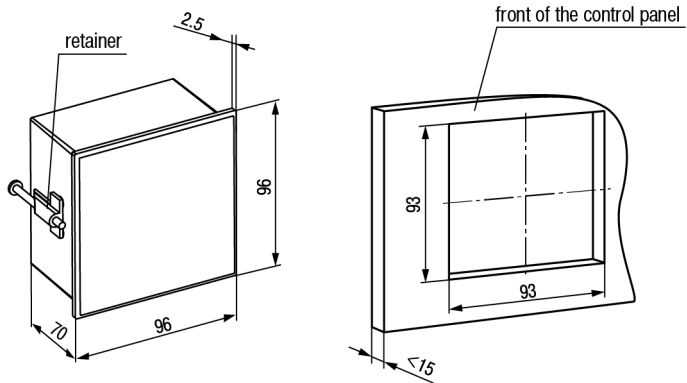

Figure 4.4 – Dimensions of Ц1 housing
1. Prepare a place for mounting on the control panel (see *Figure 4.4*).